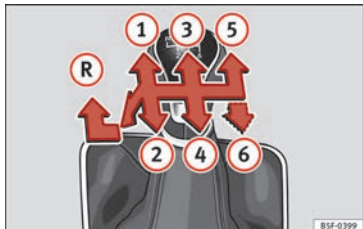

Fig. 58 Gear shift pattern of a 5 or 6-speed manual gearbox.
The position of the gears is indicated on the gearbox lever » **Fig. 58**.
- With the gearbox lever in neutral, push it downwards, move it to the left as far as it will go and then forwards to select reverse » **Fig. 58 (R)**.